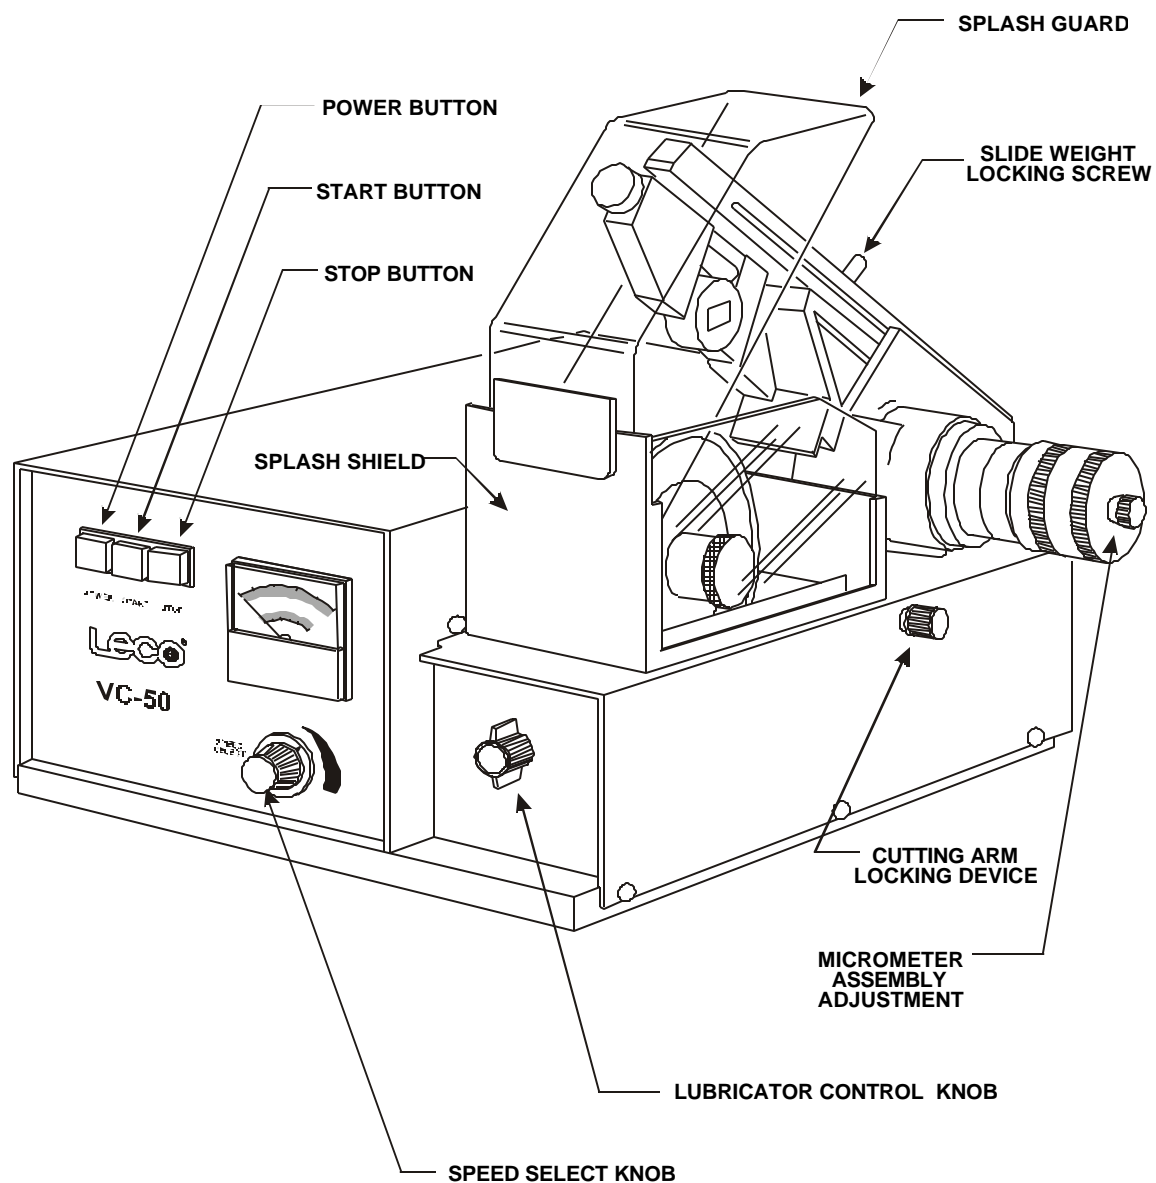

Figure 2
- C. Turn the cutting arm locking device clockwise to the locked position. The cutting arm may drop slightly but should remain in the raised position (figure 2, page 20).
- G. Turn the power on by pressing the power button. Only the power button indicator should be lighted (figure 2, page 20).
- H. Turn the speed select knob fully counter-clockwise and then press the start button (figure 2, page 20). The start button indicator light should be lit.
- J. Turn the speed select knob counter-clockwise until the meter reads mid-scale and then press the stop button (figure 2, page 20).
- A. Turn off the power by pressing the power button so the power indicator is not lit (figure 2, page 20).
- 4. Fill the tank with lubricant (figure 2, page 20).
7. Install the splash guard by clipping it on the front splash shield (figure 2, page 20).
7. Engage the cutting arm locking device and the unit is ready for operation (figure 2, page 20).
5. Place the diamond wheel dresser assembly (supplied in the component pack, page 13) over the front splash guard. The dressing stick will touch the diamond cut-off wheel (figure 2, page 20).